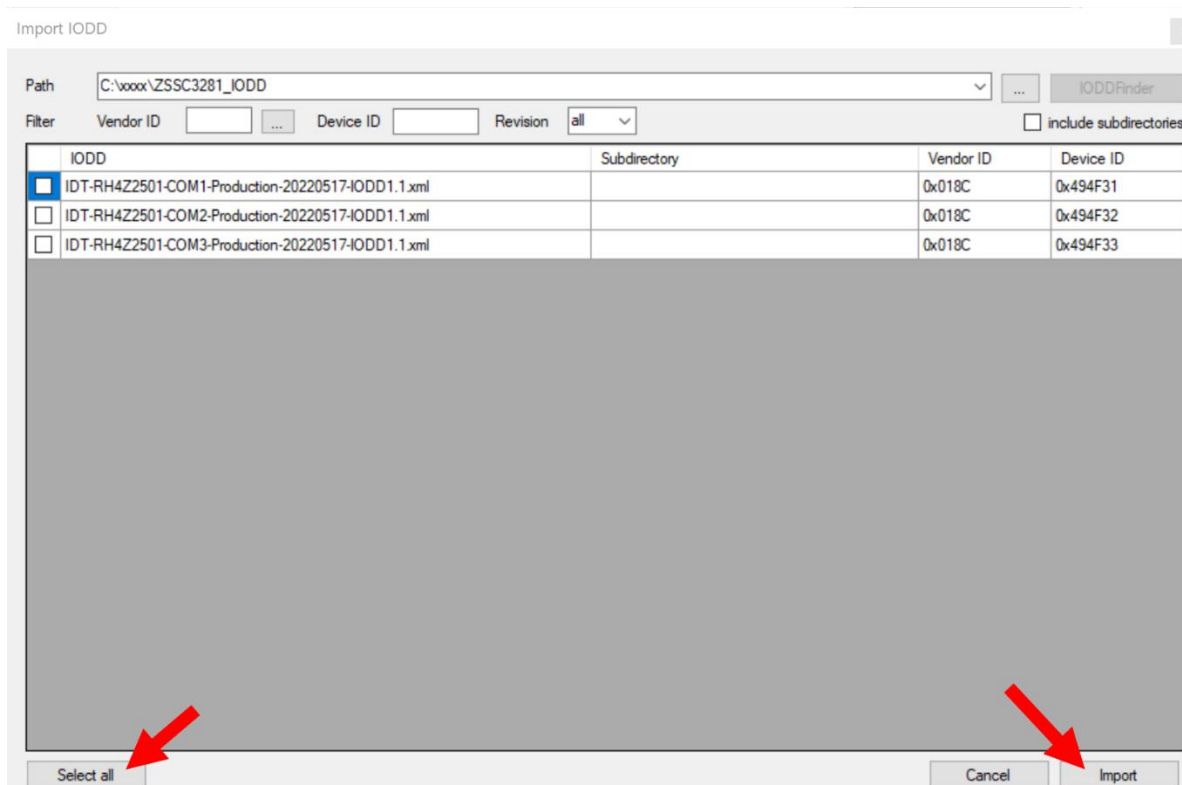

Figure 2. Importing IODD Files into TMG IO-Link Device Tool
- c. Select all IODD files by clicking on “Select all” and “Import” (see Figure 2).